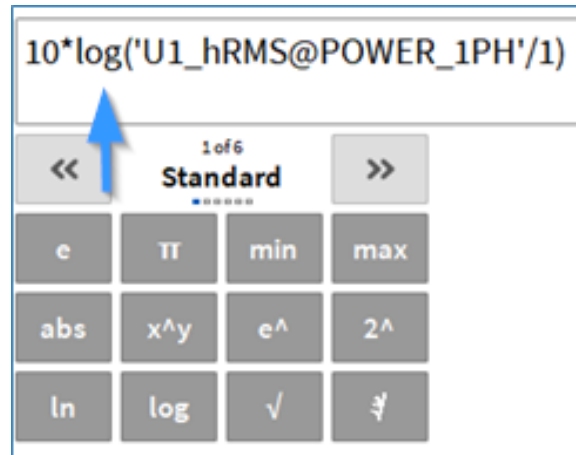

Fig. 7.74: Standard operators in combination with array channels
- Standard operators (see Fig. 7.74)